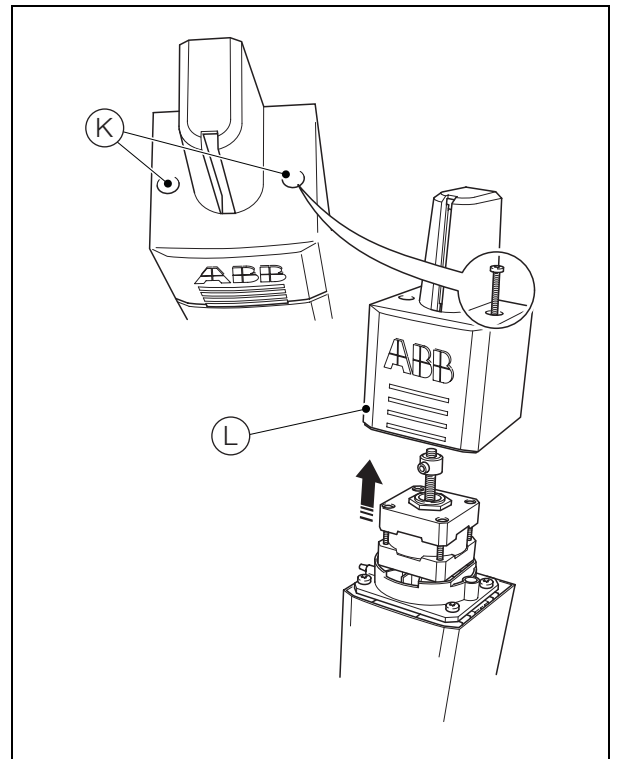

Fig. 12.12 Removing the Measurement Cell Top Cover
5. Referring to Fig. 12.12, remove the two screws (K) and remove the measurement cell top cover (L).
11. Referring to Fig. 12.12, refit the measurement cell top cover (L) and secure with the two screws (K).